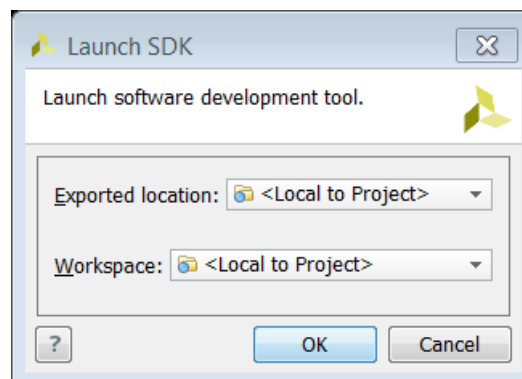

Figure 59: Launch SDK Dialog Box
4. Select **File > Launch SDK**. Make sure that both the **Exported location** and **Workspace** fields are set to **<Local to Project>**, as shown below in Figure 59.